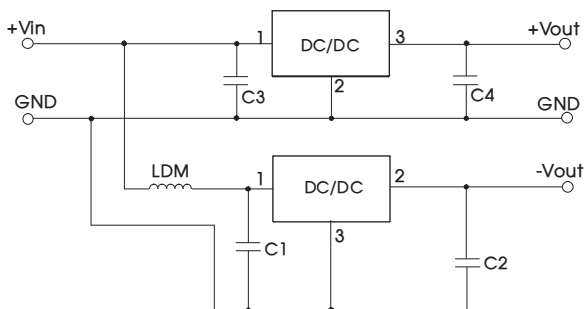

Fig. 3 Positive and negative output application circuit
3. When using configurations as shown in figure 3, we recommended to add an inductor (LDM) with a value of up to 10 μ H which helps reducing mutual interference;
5. To further reduce the output ripple and noise, we suggested the use of a "LC" filter at the output terminals, with an inductor value (L) of 10 μ H-47 μ H.